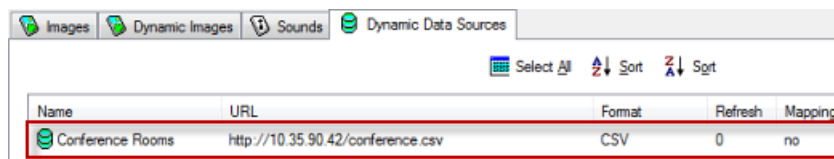

FIG. 164 Resource Manager - Dynamic Data Sources tab indicating "conference.csv" as the data source
9. Click **OK** to save changes and close this dialog. The new data source is indicated in the Resource Manager - Dynamic Data Sources tab (FIG. 164):